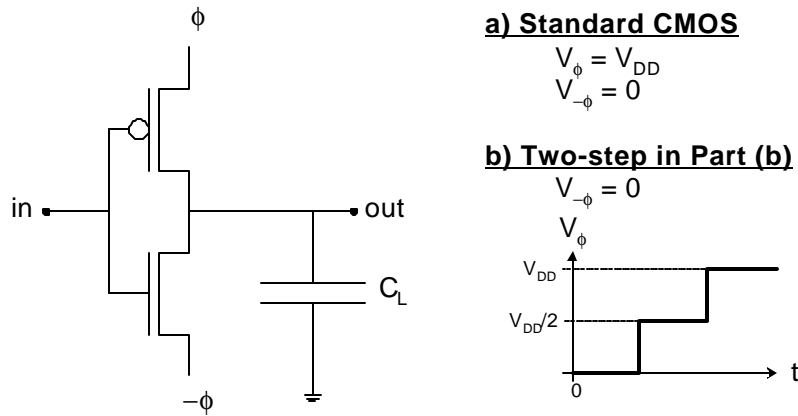

Figure 1: Inverter with Variable Power Rails
- c) Consider the chain of N progressively sized inverters shown in Figure 1 (the first is minimum sized). If the output load $C_L = 96 C_{\text{unit}}$, what sizing factor f would minimize the total delay for a chain of $N=5$ inverters? Find the total delay of this chain in terms of τ_{inv} .